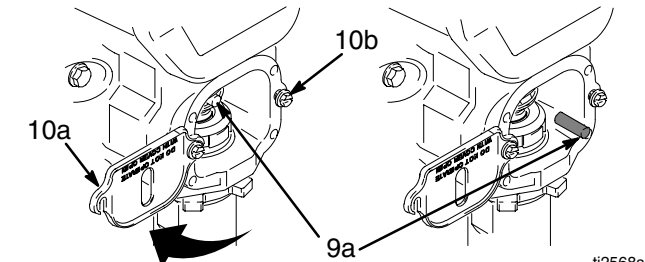

Fig. 10
1. Flush pump (13).
3. Fig. 10. Loosen two screws (10b) and rotate cover (10a).
2. Fig. 10. Install pump pin (9a). Verify retainer spring (9b) is in groove of pump pin.
8. Fig. 10. rotate cover (10a); tighten screws (10b).